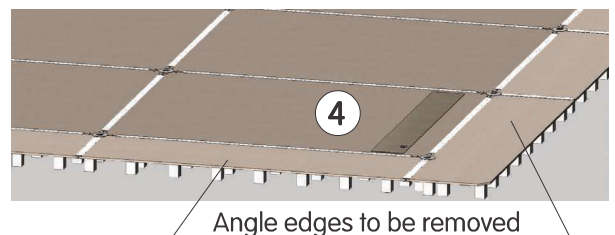

Figure 17
- Detach each angle panel **(3)** or **(4)**, then drill one 15 mm dia. hole into the outer angle, 20 cm away from the edge (**Fig. 17**).
- Insert a screw nut **(9)** into the top of the panel **(3)** or **(4)**, then secure it using two wood screws **(10)** as shown in **Fig. 17**.